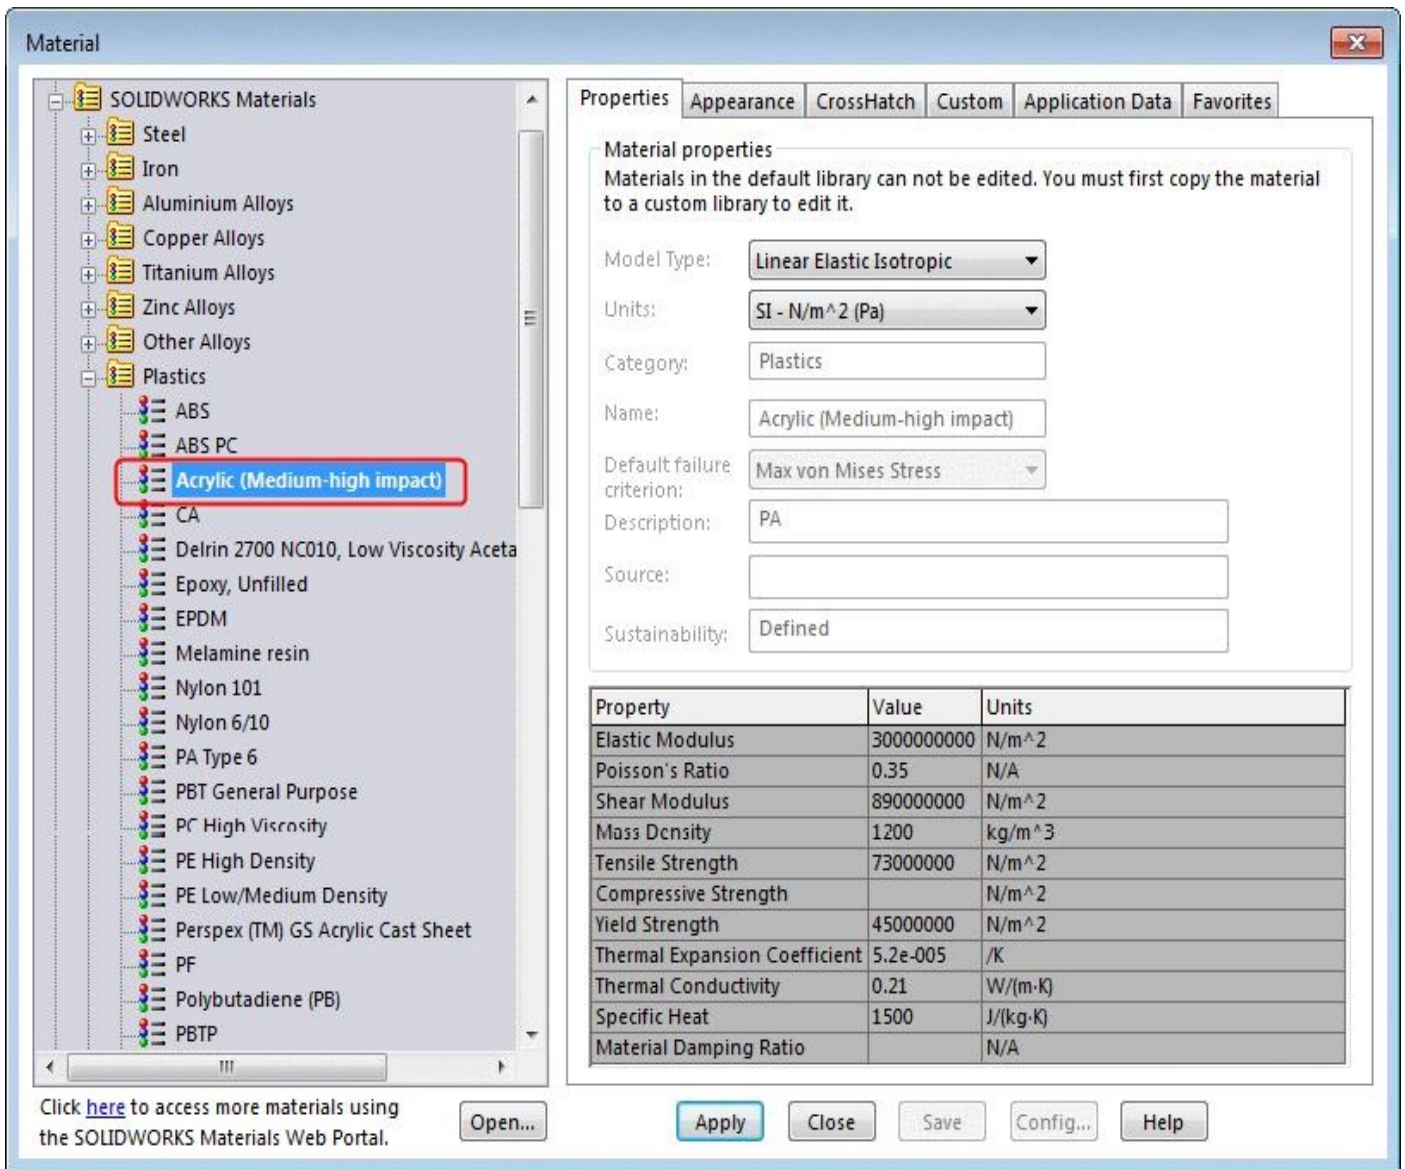

Figure-23. Material dialog box with plastic materials
- Click on the **Apply Material** button from the **Ribbon** and select the **Acrylic (Medium-high impact)** plastic from the **Material** dialog box displayed; refer to Figure-23.